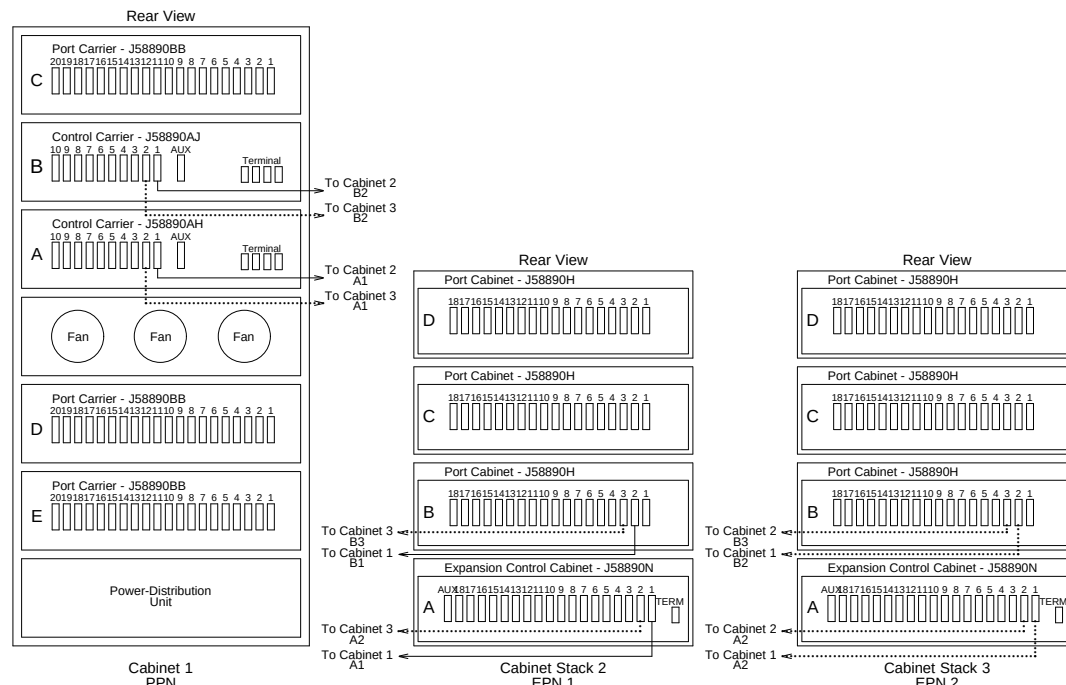

Figure 8-28. Critical-Reliability DEFINITY ECS Release 5 with Two or Three Port Networks
1. Behind control carrier A of the multicarrier PPN (see Figure 8-28 on page 8-56, Figure 8-29, Figure 8-30, and Figure 8-31):